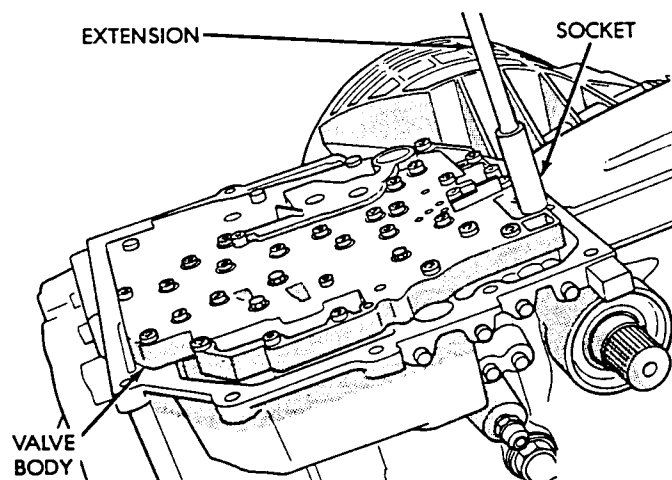

Fig. 4 Remove Valve Body Bolts
(7) Remove valve body bolts (Fig. 4).